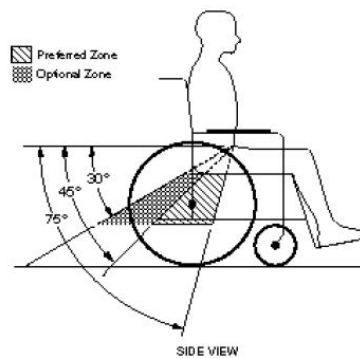

Figure 8 - Zones of preferred and optional angles for pelvic belts.
- 2) The pelvic belt should be worn low across the front of the pelvis, so that the angle of the pelvic belt is within the preferred zone of 45° to 75° to the horizontal, or the optional zone of 30° to 45° to the horizontal as shown in figure 8.